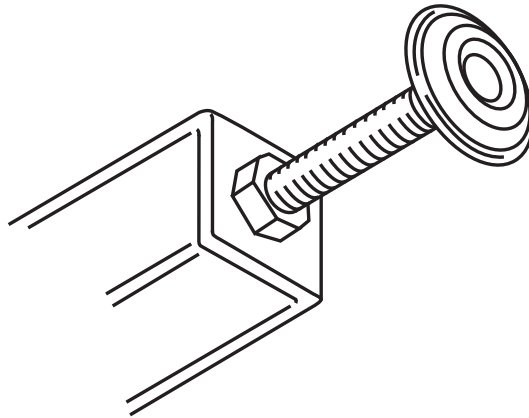

Figure A4. Adjusting a leg leveler and tightening nut.
4) Locate the game's four legs. Adjust the tightening nut and leg leveler on each leg (see figure A4). For the two front legs, position the nut all the way down, next to the foot of the leveler. For the two rear legs, position the nut approximately two-thirds of the way up the leveler. Thread the leveler into each leg until the tightening nut is against its underside.